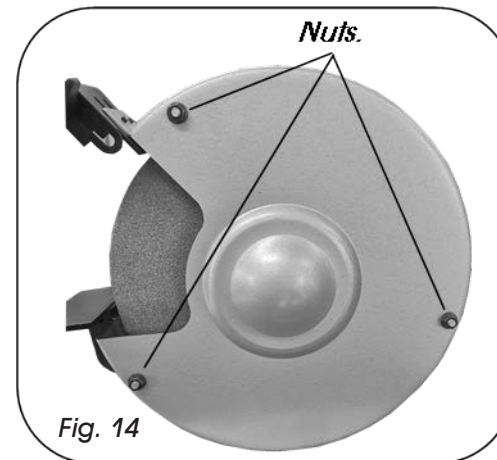

Fig. 14
- Loosen and remove the 3 guard retaining nuts (Fig. 14).